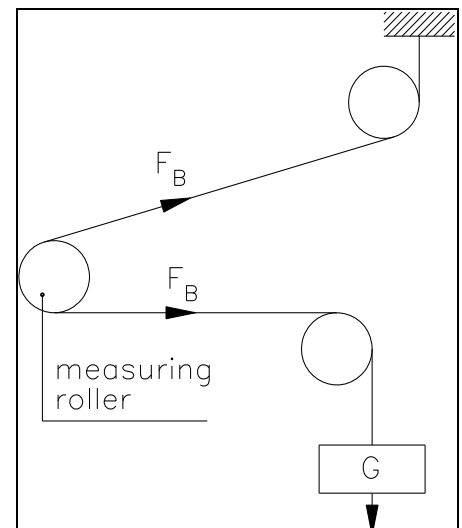

Fig. 3: Calibrating the measuring amplifier
The Calibrating procedure (setting the Gain), adjusts the controller and load cells so that the display gives you the actual tension value. There are two methods of calibrating the system. The first method uses a defined weight. The second method is based on a calculation method in conjunction with the FMS Calculator. This Calculator can be down loaded from the FMS web page. FMS recommends using the method with the weight (see **Fig. 3**) since it delivers the most accurate results.
9. Load the rope with the defined calibration weight (**Fig. 3**).